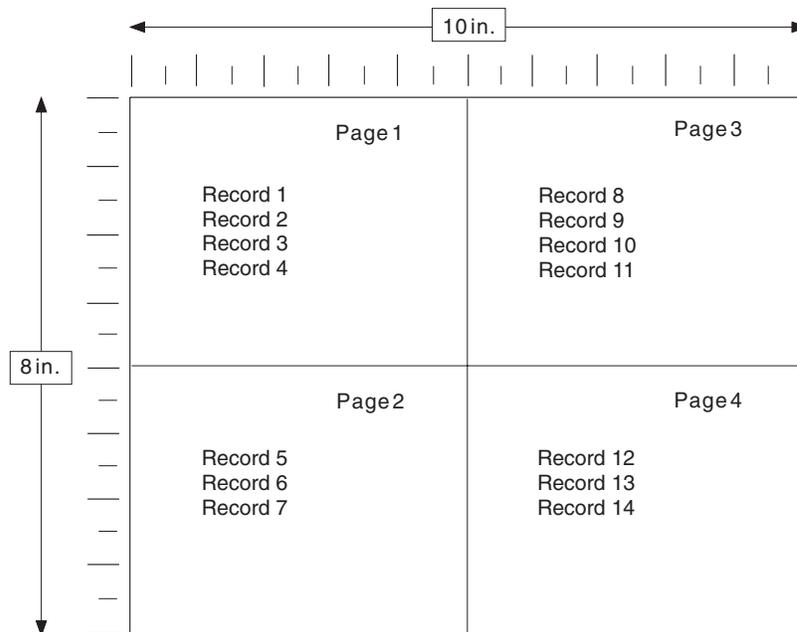

Figure 29. One logical page divided into four subpages
**Conditional processing for multiple-up applications:** The printable portion of a sheet can be divided into sections called *subpages*, each having the appearance of a smaller printed page, as in Figure 29. Subdividing the printed page in this way is called *multiple-up* printing. In the figure, the traditional line data is printed with subpages to give the *appearance* of four separate pages. Do not confuse multiple-up printing with N\_UP printing, which places up to four *actual* logical pages of data on one side of a sheet.